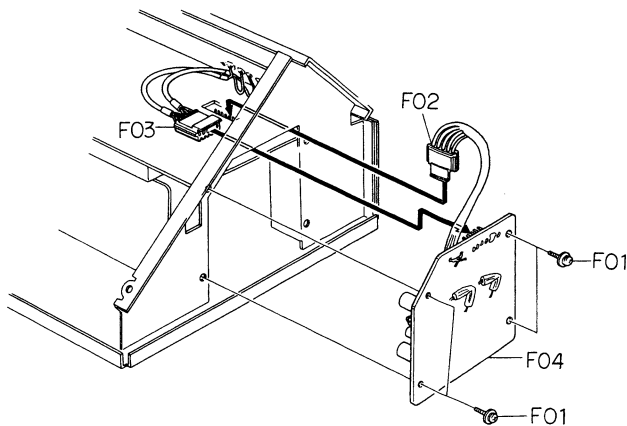

Fig. 3.9
Refer to Fig. 3.9. Remove cabinet ass'y referring to item 3.1.